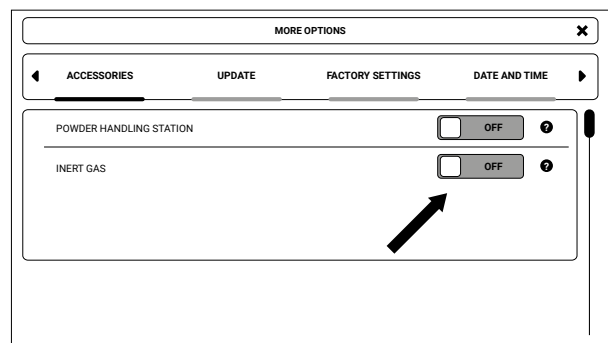

Fig. 11.2 **INERT GAS** activation in the printer.
3. Under the **ACCESSORIES** tab, switch to **ON** next to **INERT GAS** (fig. 11.2).